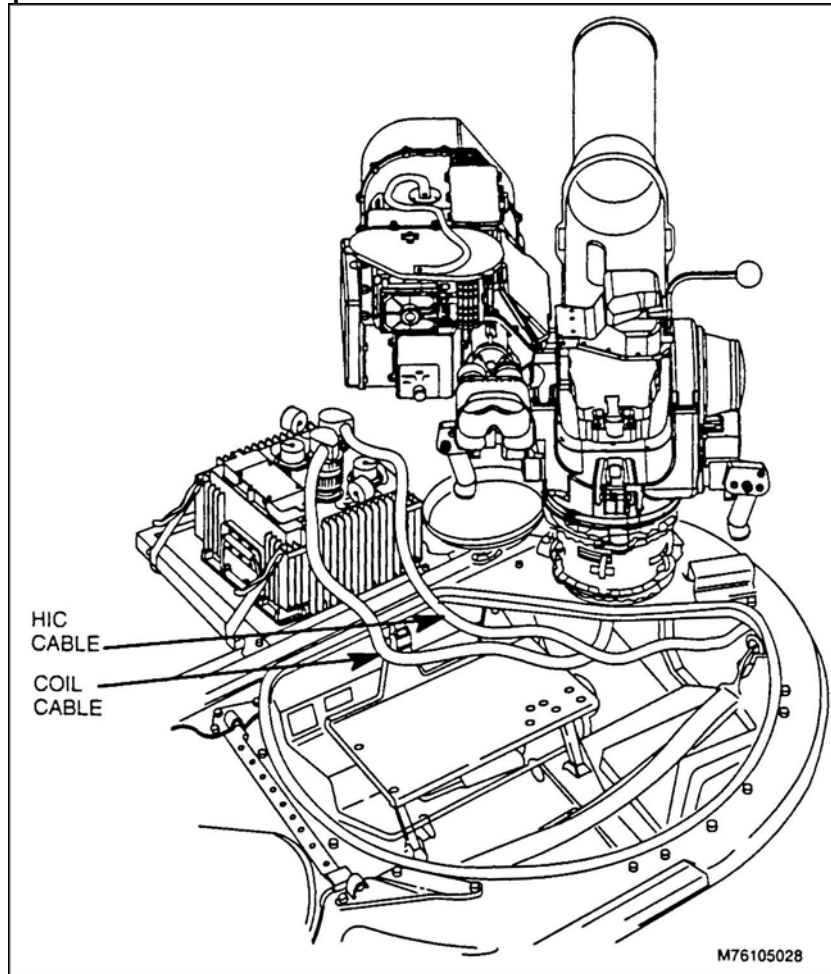

Figure 18. Connecting BPS to FCS.
- (1) Working from inside of the vehicle, reach up and remove coil cable connector from TU retainer cup.
- (2) Remove the J2 and J1 connector covers on the FCS.
- (3) Connect the coil cable with pin saver adapter to the J2 connector on the FCS (Figure 18).